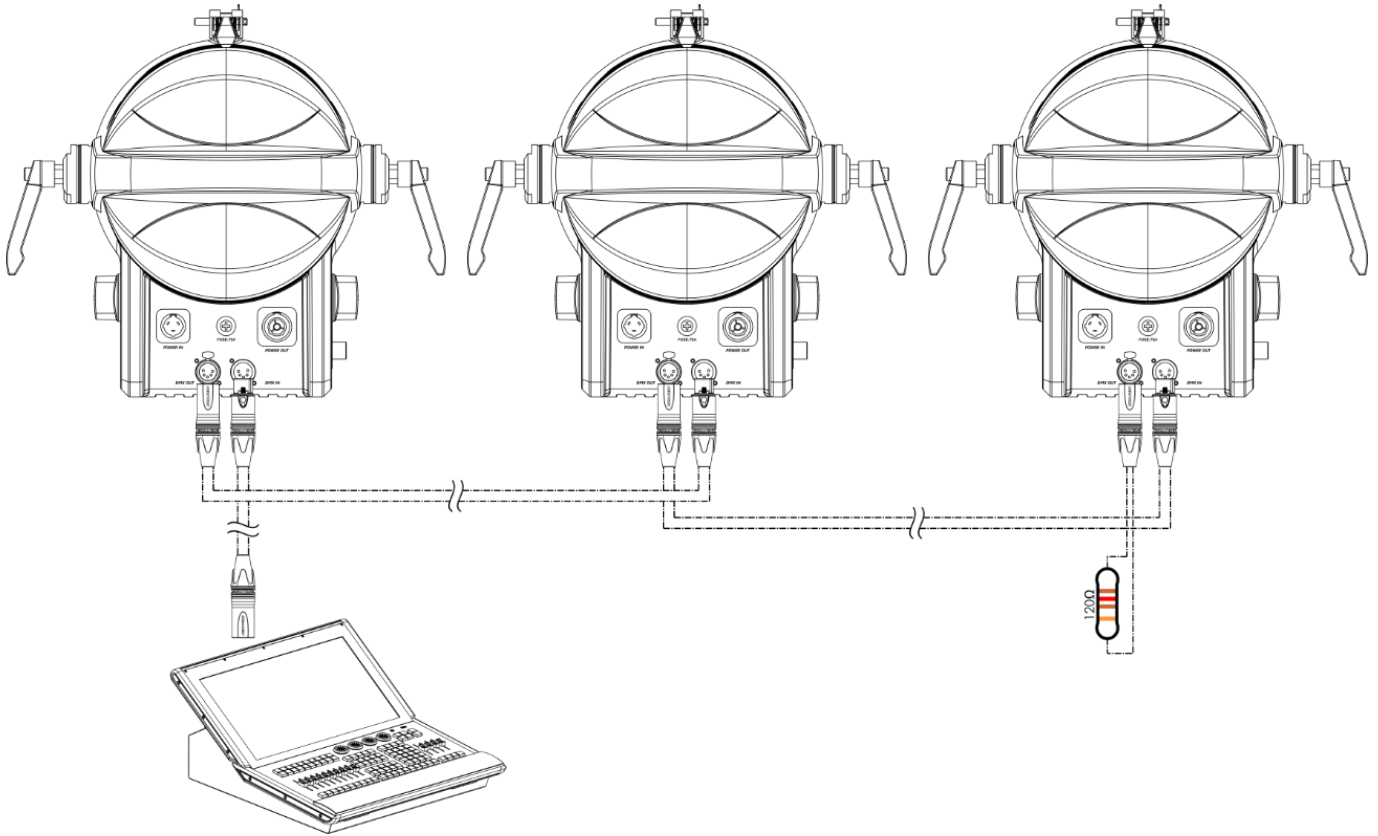

Fig. 14
- 08) Repeat step 2 to connect all devices in a daisy-chain as shown in Fig. 14.